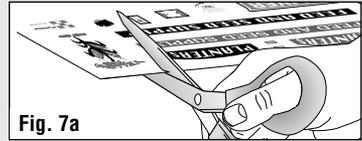

Fig. 7a
- Cut out Dry Transfer Decals, leaving a slight edge. (Fig. 7a)